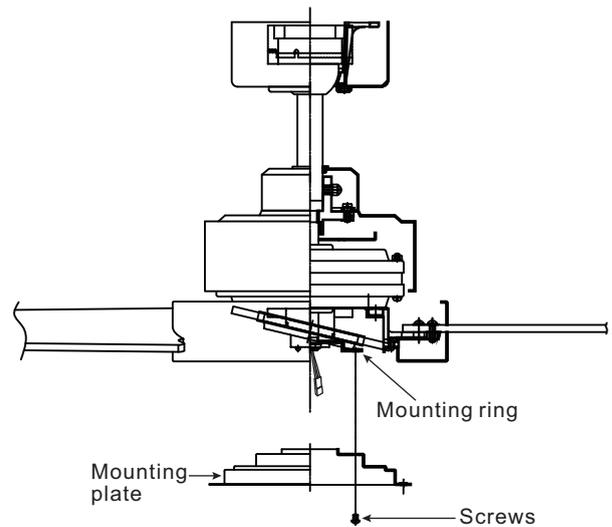

**Figure 11**
**Step 1.** Insert the blade through the slot in the housing. Align the holes in the blade and the fan motor assembly and secure with blade support plate and screws with lock washers. (Fig. 11)